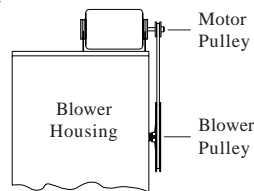

Fig. 2
- **Install pulley.** Install the adjustable motor pulley so that it aligns with the blower drive pulley (see Fig. 2) and tighten set screw.